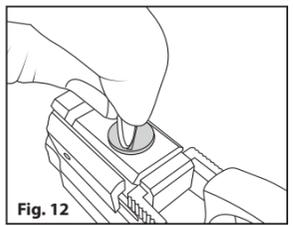

Fig. 12
- This laser uses (1) 1/3N lithium battery OR (2) 357 batteries
- Use a flathead screwdriver or coin to remove to remove the battery cover (Fig. 12).